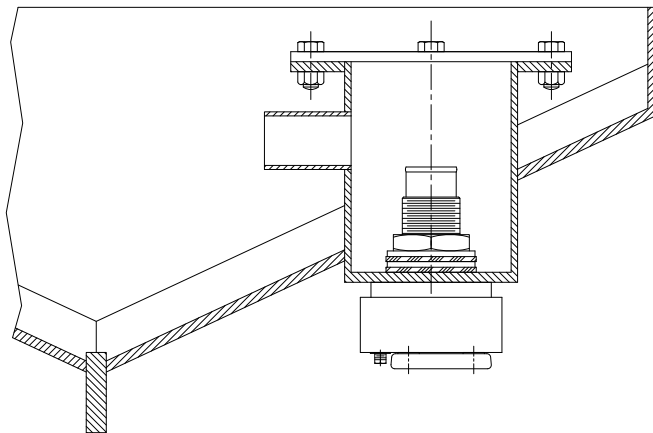

FIG.4 Canted Installation with Cofferdam.
1.5.2 The GRIDCOOLER unit can be canted from the hull (sideways) to vertically align the nozzles. This can reduce interference problems with stringers on cofferdam installations. See Figure 4. (referred to section 3.1 for cofferdam installation)